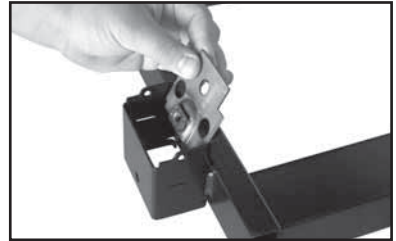
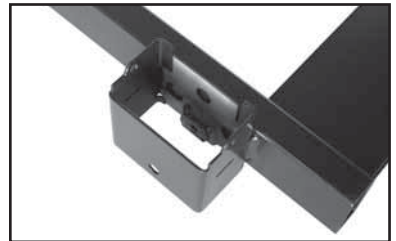

Figure 4
Figure 5
1. Install backer plate **M** into the fixed wheel housing. Note the position of the threaded boss on the backer plate in Figure 4. Backer plate will seat itself against the corner. Figure 5.